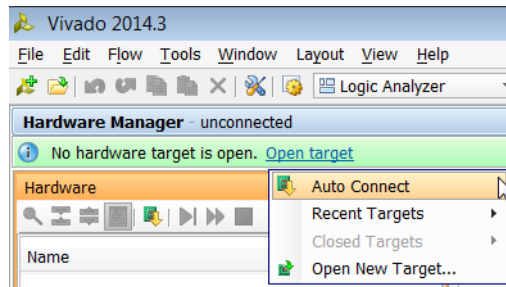

Figure 2-11: Using the User Assistance Bar to Open a Hardware Target
- Use the **Open recent target** or **Open a new hardware target** selections on the green user assistance banner across the top of the **Hardware Manager** window to open recent or new hardware targets, respectively (see Figure 2-11).